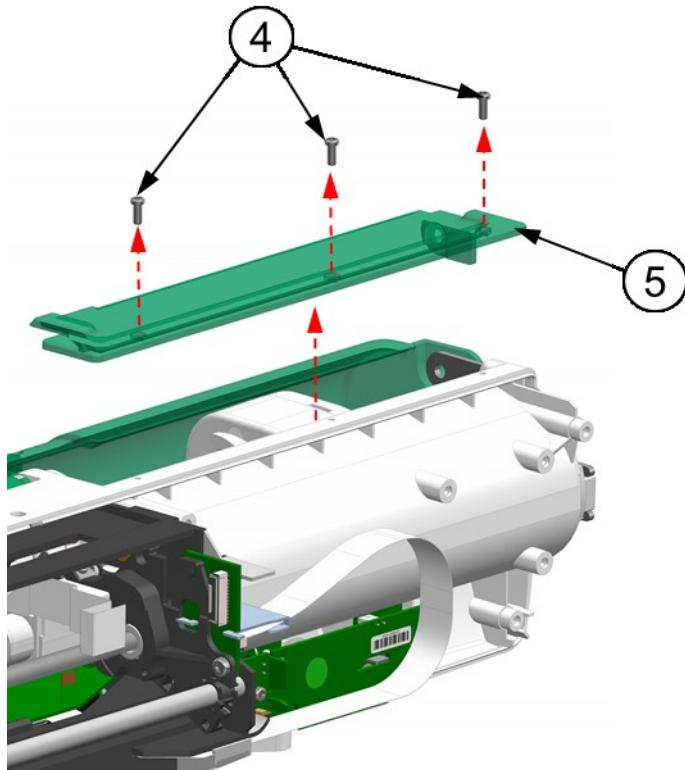

Fig. 86 Bottom PCA cover removal/installation
4. By using the **TB-2** Torx screwdriver unscrew three **2,5x6 (4)** screws for plastic as indicated on the **Fig. 86**.
5. Disassemble the **Bottom PCA cover (5)** as indicated on the **Fig. 86**.
1. Assemble the **Bottom PCA cover (5)** with three **2,5x6 (4)** screws for plastic by using the **TB-2** Torx screwdriver. Perform the assembly opposite to the direction indicated by the red arrow in **Fig. 86**.